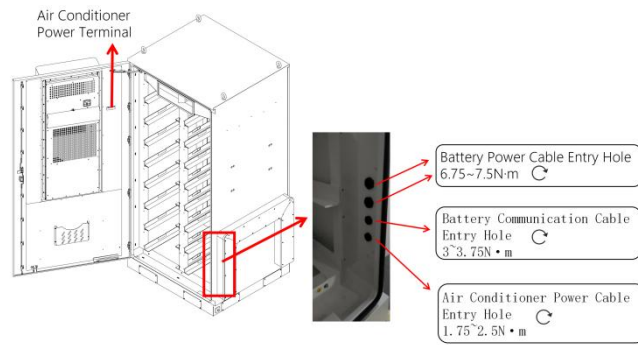

Figure 5-16 Internal Cable Entry Holes
- Internal cables are routed to external corresponding equipment through outlet holes, as shown in Figure 5-16.